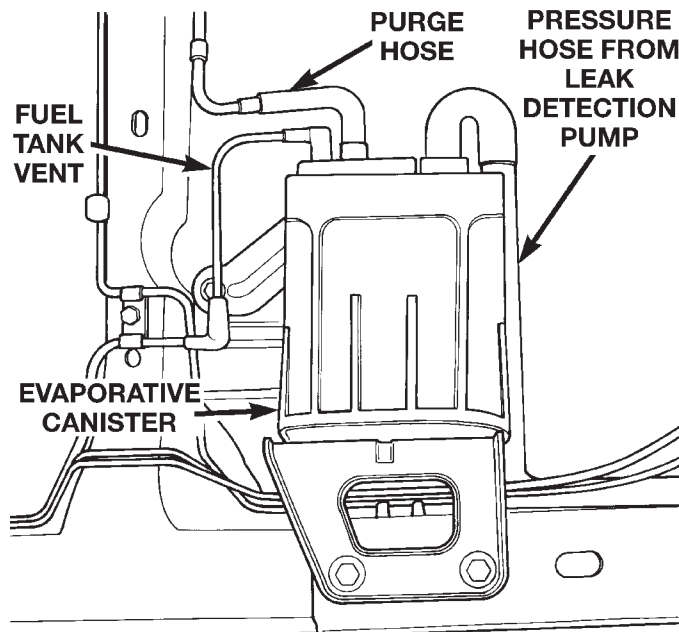

Fig. 80 Evaporative Canister
(10) Verify the hoses are securely attached to the EVAP canister (Fig. 80).